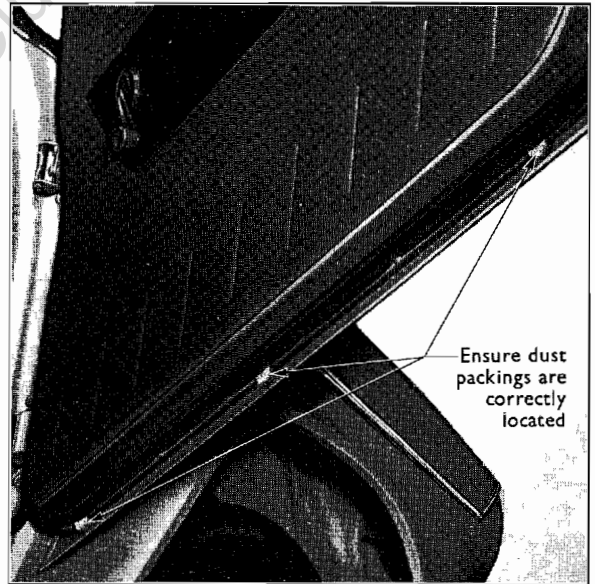

Fig. 14
3. A polyurethane packing is also fitted to the drain holes on door frames (see Fig. 14) and a careful examination should be made and if necessary the packings renewed.